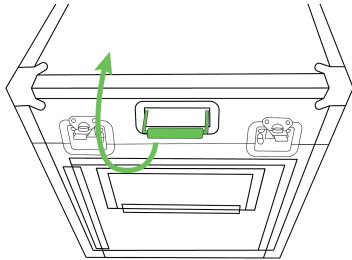

Figure 6-21. Opening the top compartment
2. Grab the middle handle to open the top compartment (Figure 6-21).